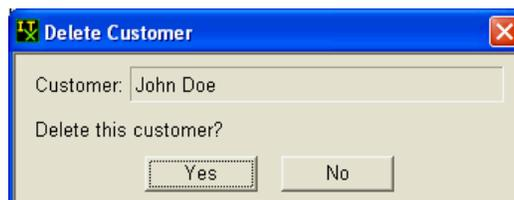

Figure 1.5C
c) To delete a customer, click on the blank clipboard that is marked with an 'X' . A message box will appear to confirm your deletion. See figure 1.5C. You cannot delete a customer if transactions have already been done in the program.